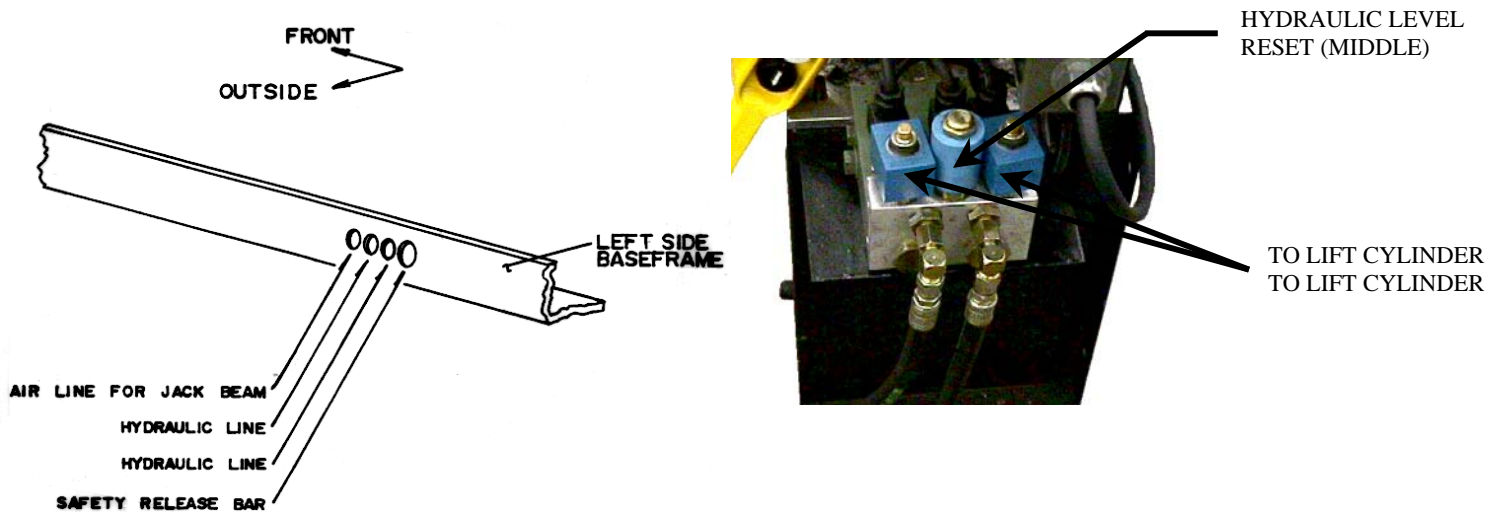

Figure 3 - Hydraulic Connections
3. Connect the two (2) 21' (6401mm) long hydraulic hoses to the hydraulic outlet ports on the valve assembly of the power pack using the two 90deg elbows (3/8" JIC-M, 3/8" JIC-F) located in the hardware kit. Refer to Figure 3.
4. Locate the opposite ends of the two (2) 21' (6401mm) long hydraulic hoses. Connect to the two inlet ports of the lift, the inlet ports are located on the left side of the Left Main Frame Assembly. Refer to Figure 3.
5. After bleeding, it is recommended that the filter assembly fitting (between the hydraulic hose and the powerpack – see Figure 3) be cleaned. Place the fitting on a workbench and use an air gun to blow through the filter in the opposite direction to flow from the lift.